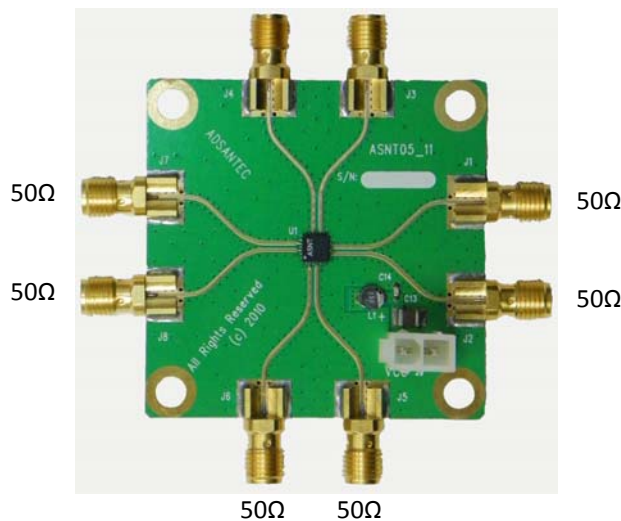

Fig. 5. Impedance of I/O Connectors
- Measure the resistance of all connector pins to VCC, including the power supply, while making sure the board is grounded. All high speed I/O ports should measure 50Ohms while on the power supply connector, VCC should be a short, and GND should be high impedance. Fig. 5 shows the resistance values of the described I/O connectors.